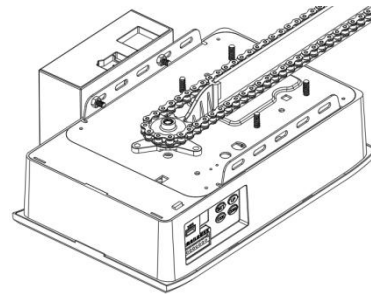

Figure 19
STEP2 (Fig.19)
Join the battery to opener, find the Fig.19.